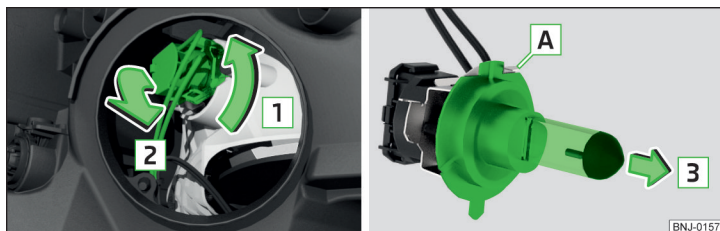

Fig. 212 Changing the bulb for the low beam
- Turn the holder with the bulb in the direction of arrow  » Fig. 212.